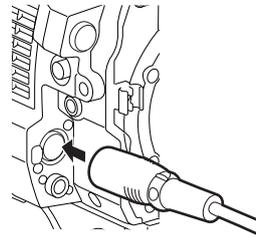

Fig. 4
- 4** Connect the microphone cable to the <MIC IN> terminal on the camera module. (Fig. 4)